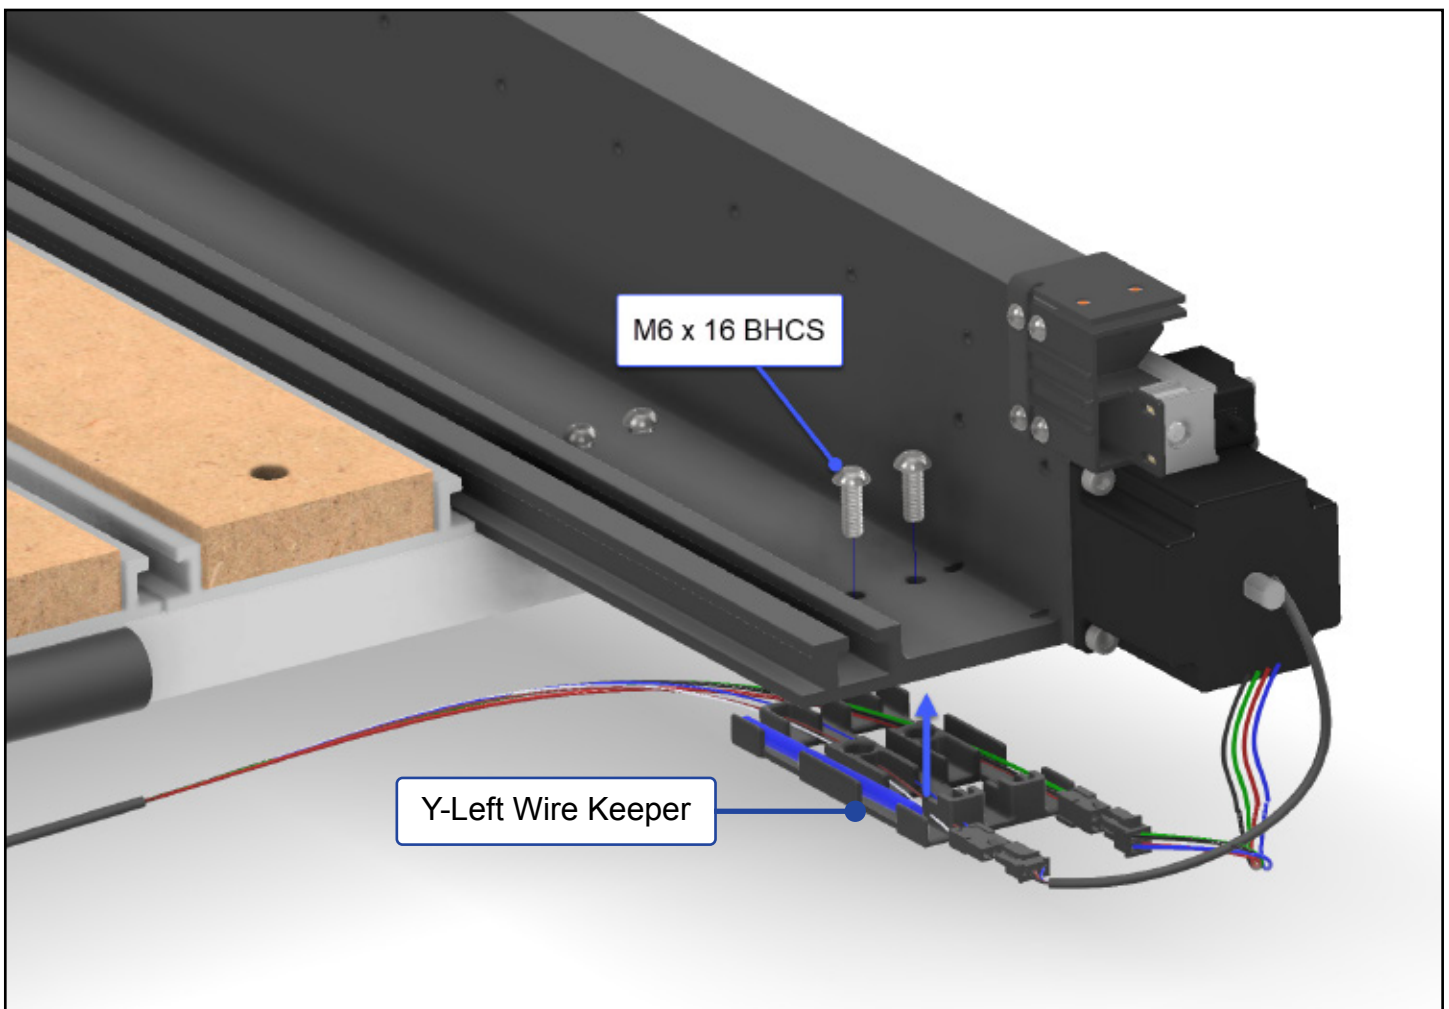

Figure 4-4
4. Slide the wire keeper under the back edge of the Y-Left assembly (right side when standing at the back of the machine). See **Fig. 4-4**.
5. Use a 4mm hex key and two (2) M6×16mm BHCS to attach the wire keeper to the Y-Left assembly. Fully tighten. See **Fig. 4-4**.